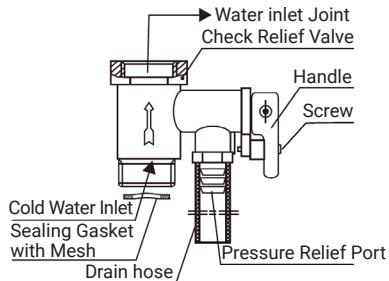

Figure 3
- ① The safety valve (factory original identification 0.8MPa) in the accessories shall be installed on the water inlet joint (as shown in Fig 3), and the raw material belt shall be wound to ensure sealing. The arrow direction shall be consistent with the water inlet flow direction of the electricwater heater (as shown in Fig 3). The net sealing gasket shall be installed at the cold water inlet of the safety valve, and the drainage hose at the pressure relief outlet of the safety valve shall be installed to maintain a continuous downward inclination. It shall be installed in a frost free environment, and then extended to the ground leakage, kept connected with the atmosphere, and properly fixed to prevent scalding by discharging hot water or steam. The safety valve can prevent the tank pressure from exceeding the rated pressure by 0.1MPa. If the pressure in the tank is too high, the safety valve will automatically open and drain water from its pressure relief port to release the pressure.
- ② The water pipe connected to the electric water heater must be able to withstand pressure of 0.8MPa and temperature of more than 100°C, and the joint shall be wrapped with sealing tape to ensure sealing.
- ③ Where water is used, it shall be able to drain smoothly.
- ④ Under normal use, the handle of the safety valve (Fig. 3) should be opened regularly to remove calcium carbonate deposition. The method is: pull the discharge handle upward to the horizontal position (if the handle is equipped with screws, remove the screws with a screwdriver before doing this action), and confirm whether the safety valve is blocked (whether there is water discharge). If it is blocked, please contact the maintenance department.